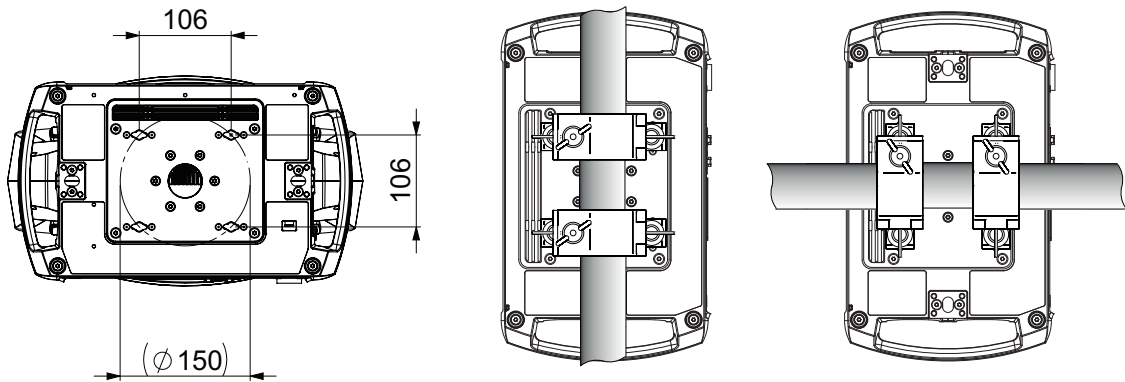
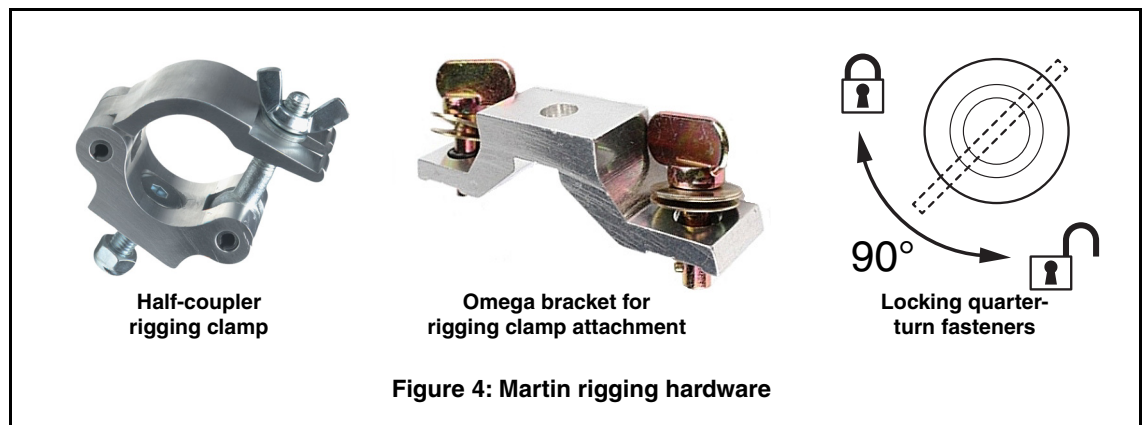

Figure 3: Clamp bracket positions
Figure 4: Martin rigging hardware
The MAC Aura PXL can be fastened to a surface such as a stage or clamped to a truss in any orientation. Clamps must be half-coupler type (see Figure 4) or equivalent type that fully encircles the truss unless the fixture is installed with the yoke hanging vertically downwards, in which case other clamp types that are approved for the supported weight may be used.
The mounting points in the base allow omega brackets and rigging clamps to be fastened as shown in Figure 3.
3. See Figure 3 on page 10. Align the first clamp and bracket with 2 mounting points in the base, and engage both the clamp bracket's quarter-turn fasteners in corresponding sockets in the base. See Figure 4. Turn the levers on the quarter-turn fasteners a full 90° clockwise to lock. Repeat for the second clamp.